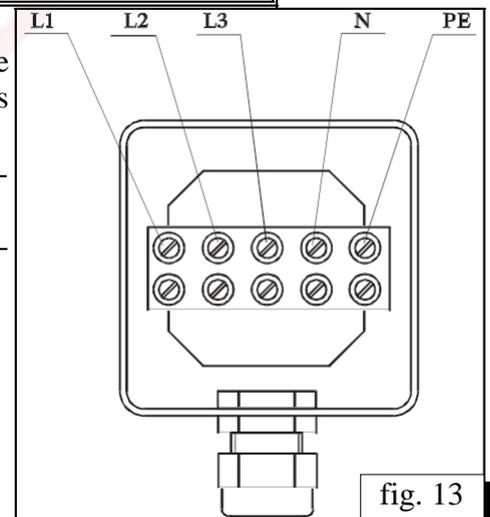

fig. 13
- ⚠ Connect the supply cable to the respective terminals in the incoming electric board (L1,L2,L3,N,PE) (fig. 13).